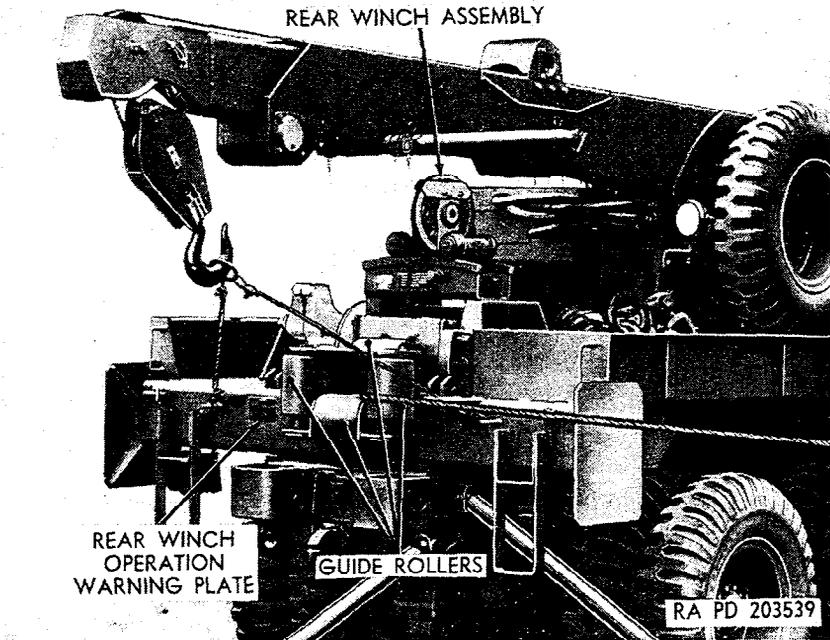
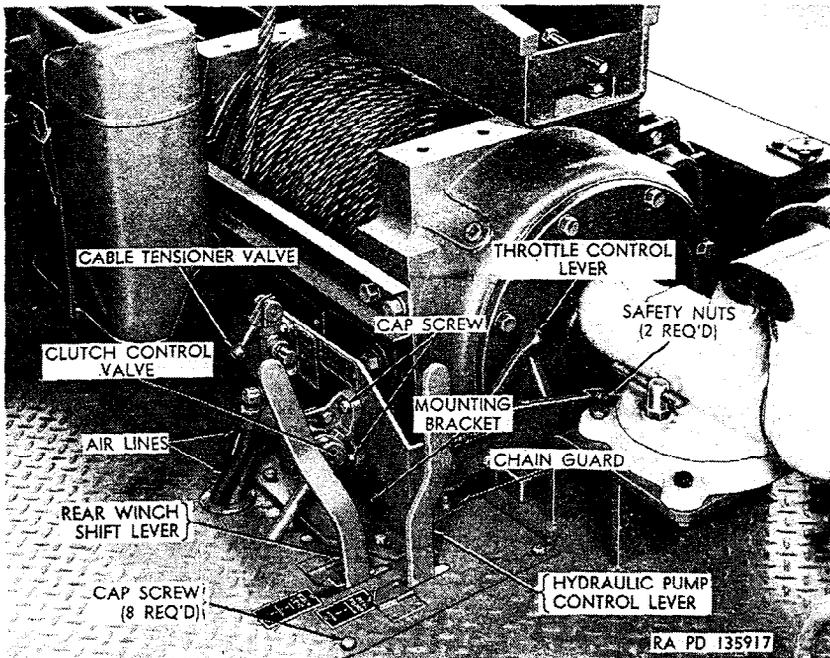

Figure 74. Right rear view of rear winch mounted on vehicle.
Figure 75. Rear winch controls—M62.
a. Description. The rear winch (fig. 74) is a worm-gear horizontal-drum winch mounted on the rear of the truck. Power for operation of the rear winch is obtained through two propeller shafts extending from the power divider (par. 268a(4)) to a drive sprocket which is connected to the rear-winch drive shaft sprocket by a roller chain. An internal automatic safety brake is provided to sustain the winch load when the winch shift lever is being used to shift the power divider. All rear mounted winches are equipped with a level wind and pneumatically controlled cable tensioner.
(a) *Engine clutch control valve.* The two-position engine clutch control valve (fig. 75), located immediately forward of the rear winch, is an air valve which controls the air pressure inside a roto chamber (air cylinder) mounted on the right side of the transmission (par. 268a(3)) so as to permit operation of the engine clutch from the rear of the vehicle. Pushing the clutch control valve lever down
- (b) *Rear winch shift lever.* The three-position rear winch shift lever (fig. 75), located to the left of the engine clutch control valve, is used to control the direction of rotation of the winch drum by shifting the winch drive shaft gears inside the power divider (par. 268a(4)). The lever is moved toward the front of the truck as far as it will go for UNWIND, moved to the center of its range of travel for NEUTRAL, and moved toward the rear of the truck as far as it will go for WIND (fig. 40).
- (c) *Cable tensioner control valve.* The two-position cable tensioner valve (fig. 75), located to the right of the engine clutch control valve, is an air valve used to control the air pressure inside an air cylinder which exerts pressure on the winch cable by decreasing the gap between a pair of tensioner sheaves mounted on the front of the winch (par. 268a(1)). The lever is pulled up as far as it will go to OFF (fig. 43) to release the pressure on the cable. Moving the lever down as far as it will go to ON applies pressure (tension) to the cable.
- (d) *Throttle control lever.* The throttle control lever (fig. 75), located to the rear of the engine clutch control valve, is connected by a control rod to the throttle linkage in the engine compartment. This lever is used to control engine speed during rear winch operation. Moving the lever forward to OPEN (fig. 41) increases the engine speed. Moving the lever to CLOSED decreases the engine speed.
- (1) *Vehicle positioning.* The truck is most advantageously positioned when the load attachment point is directly behind the truck. However, guide rollers (fig. 74) at the rear of the winch permit pulling the load at any angle up to 90°, right or left, from the center line of the truck, and at any angle up to 60°, above or below, from the horizontal plane of the winch. The maximum rated pull (45,000 lb) is available only when sufficient cable is off the drum to completely expose the first layer.
- (2) *Unwinding wire rope.*
- (d) Set the throttle level (fig. 75) to give about 1,000 rpm no-load engine speed.
- (e) Move clutch control valve lever (fig. 75) to DISENGAGE (fig. 47), move winch shift lever (fig. 75) to UNWIND (fig. 40) and move cable tension valve lever to OFF position (fig. 43).
is not necessary. However, if the winching load is excessively heavy, the engine speed may fluctuate and it will be necessary to move the throttle control lever (fig. 75) so as to increase the engine speed.
(3) *Hydraulic pump and controls.* A vane-type hydraulic pump (par. 268a(6)) is used to power the hydraulic crane. The pump is set in motion by operating the hydraulic pump control lever (fig. 75) after the power divider is engaged (par. 39). To operate the hydraulic pump control lever, it is necessary to disengage the engine clutch, using the clutch control valve lever (par. 52b). A governor valve mounted on the power divider (par. 268a(4)) governs the engine speed at 1,500 rpm (full load.) during crane operation.
- (c) Disengage the engine clutch from the rear of the vehicle using the clutch control valve lever (par. 52b(2)(a)), and move the hydraulic pump control lever (fig. 75) forward to ENGAGE position. Engage the engine clutch.
- (d) Pull the throttle control lever (fig. 75) forward to OPEN position.